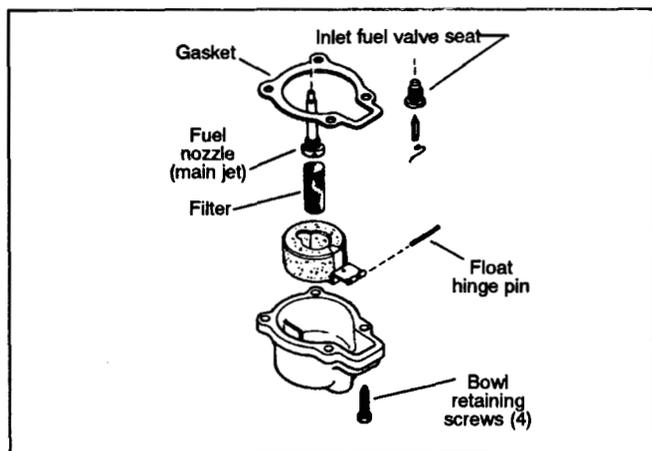

Figure 36
4. Turn the carburetor over and remove the four bowl retaining screws, the bowl gasket and the bowl (**Figure 36**). Discard the bowl gasket.
6. Remove the float hinge pin, the inlet valve needle assembly (with its clip) and the float (**Figure 36**). Discard the needle and clip.
8. Remove the brass inlet fuel valve seat and discard it (**Figure 36**).
1. Install the high speed jet into the fuel nozzle (**Figure 36**).